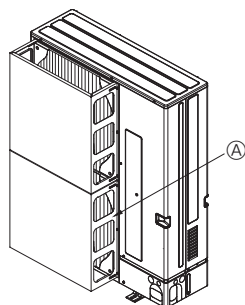
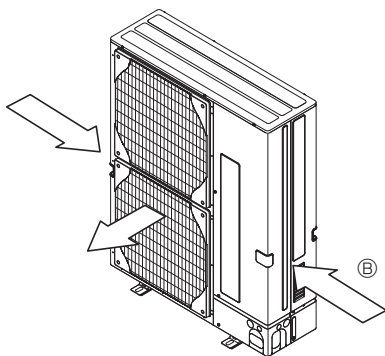

Fig. 2-4
Fig. 2-5
- ② Install an optional air guide if the unit is installed in a location where strong winds from a typhoon, etc. may directly enter the air outlet. (Fig. 2-4)
- ④ Air protection guide
- ③ Position the unit so that the air outlet blows perpendicularly to the seasonal wind direction, if possible. (Fig. 2-5)
- ⑤ Wind direction